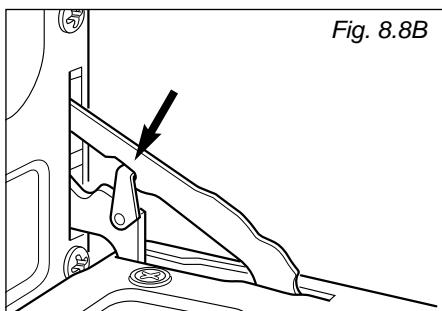

Fig. 8.8B
- Attach the retaining rings to the hooks on the left and right hinges (fig. 8.8B).